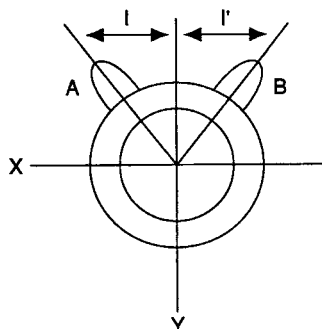

Fig. 3-13 Good example
3. Align the vertical location of R, G, and B in the center of the screen with the V-STAT Mg. (Fig. 3-13, 3-14)